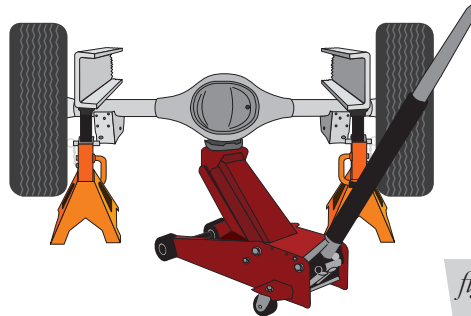

fig. 2
1. Raise the vehicle and support the axle with safety stands, setting the safety stands as wide as possible on the axle (Fig. 2).